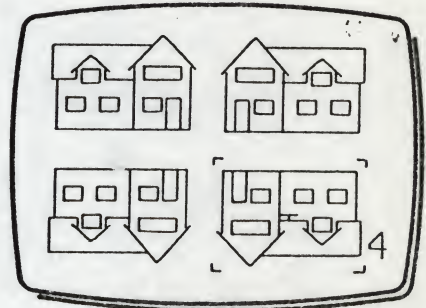

Fig 4
- 14 Plant the house as (4) in Fig 4. The house is now mirrored about both vertical and horizontal axes.